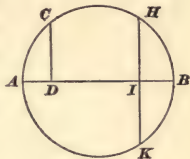

FIG. 47.
If AB , Fig. 47, is the given diameter and C any point on the circumference, then $AD : CD = CD : DB$, CD being a mean proportional between AD and DB .
EXAMPLE.—In Fig. 47, the diameter of the circle AB is $36\frac{1}{8}$ feet and the distance BI is 8 feet; what is the length of the line HK ?
2. Suppose that in Fig. 47, the diameter $AB = 15$ feet and the distance $BI = 3$ feet. What is the length of the line HK ? Ans. 12 ft.